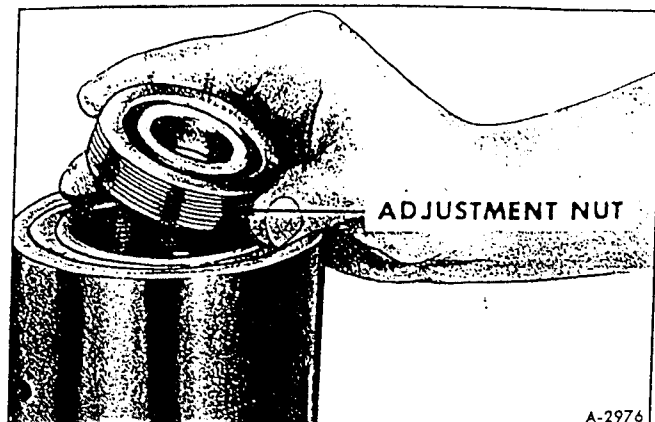

Figure 23 – Adjusting Nut Removal
2. Remove valve adjusting nut from piston (fig. 23).